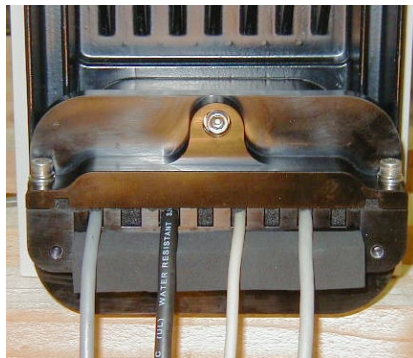

Figure 9-6. Upper Flange Installed
7. Attach the flange assembly using one M6 x 20 screw, one M6 lock washer, and one M6 flat washer. See Figure 9-6.